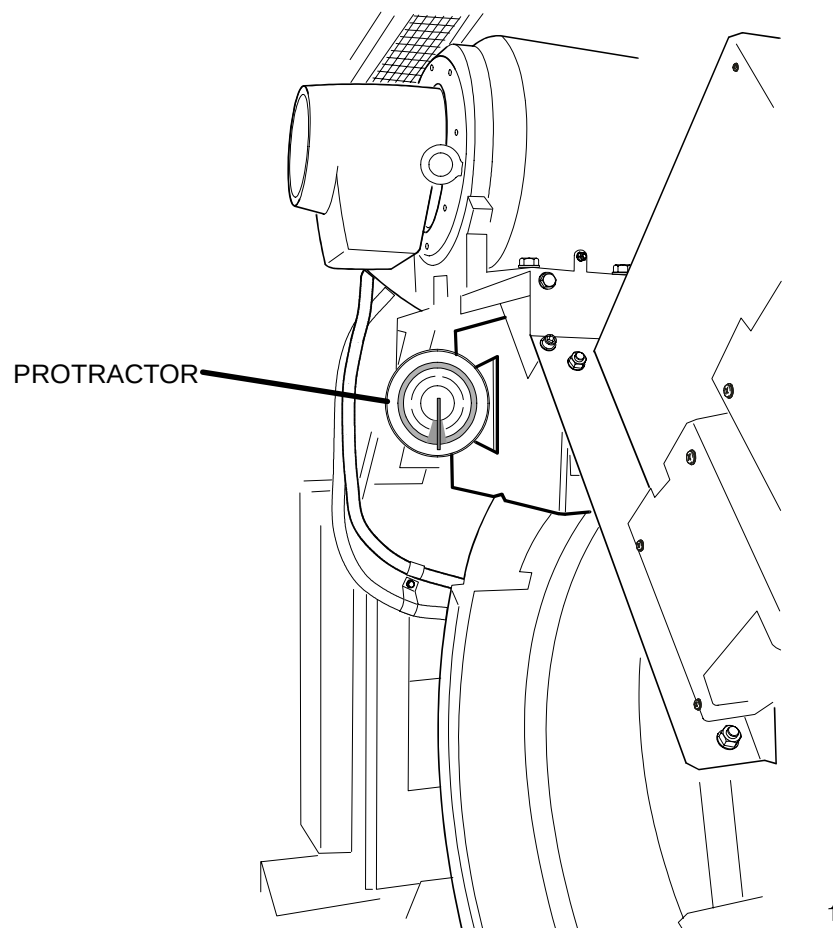

FIGURE 100 PROTRACTOR ON COLLIMATOR AT ZERO DEGREES
4. Set the protractor to indicate zero (0) degrees and tape it against the side of the collimator (non-magnetic metal). Tilt the Gantry until the protractor bubble level indicates that the Gantry is at zero degrees. Refer to Figure 100.